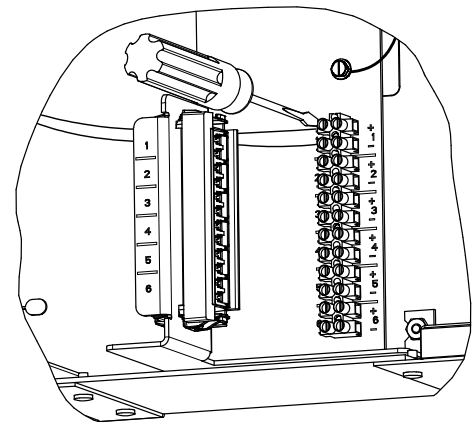

Figure 7
5. Using a small flat screwdriver open the screw terminals until the wires insert into the terminal ports. Push each wire into its port. Screw each terminal down hand tight to make contact between the terminal and the wire conductor. Verify the wires are secure in the terminals with no exposed wire conductor, as shown in **Figure 7**.